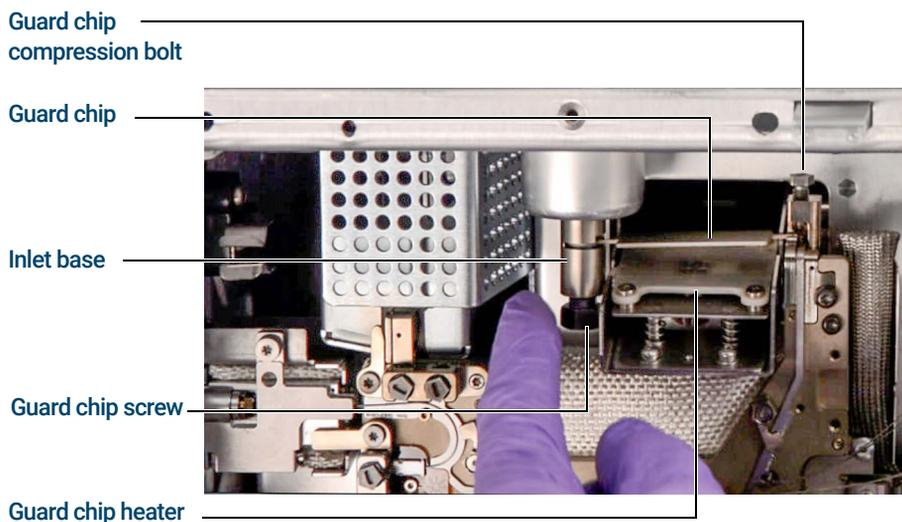

Figure 14. Guard chip and related parts
- 9 Pull the compression bolt access plate out to allow the torque driver to access the Guard chip compression bolt. (See Figure 14 on page 66.)